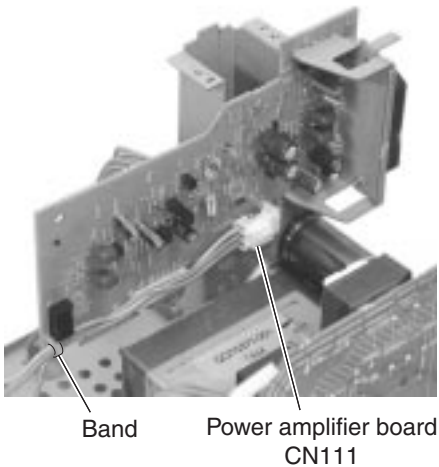

Fig.32
■ **Removing the power amplifier board** (See Fig.32,33)